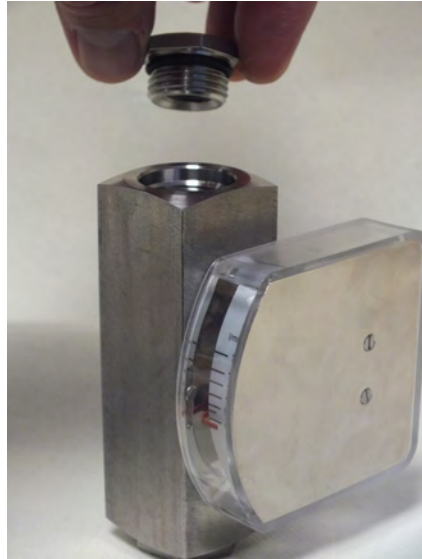

Fig. 59: Insert process connection (outlet)
- 10.** Insert the process connection (outlet) into the device body (outlet) (Fig. 59).